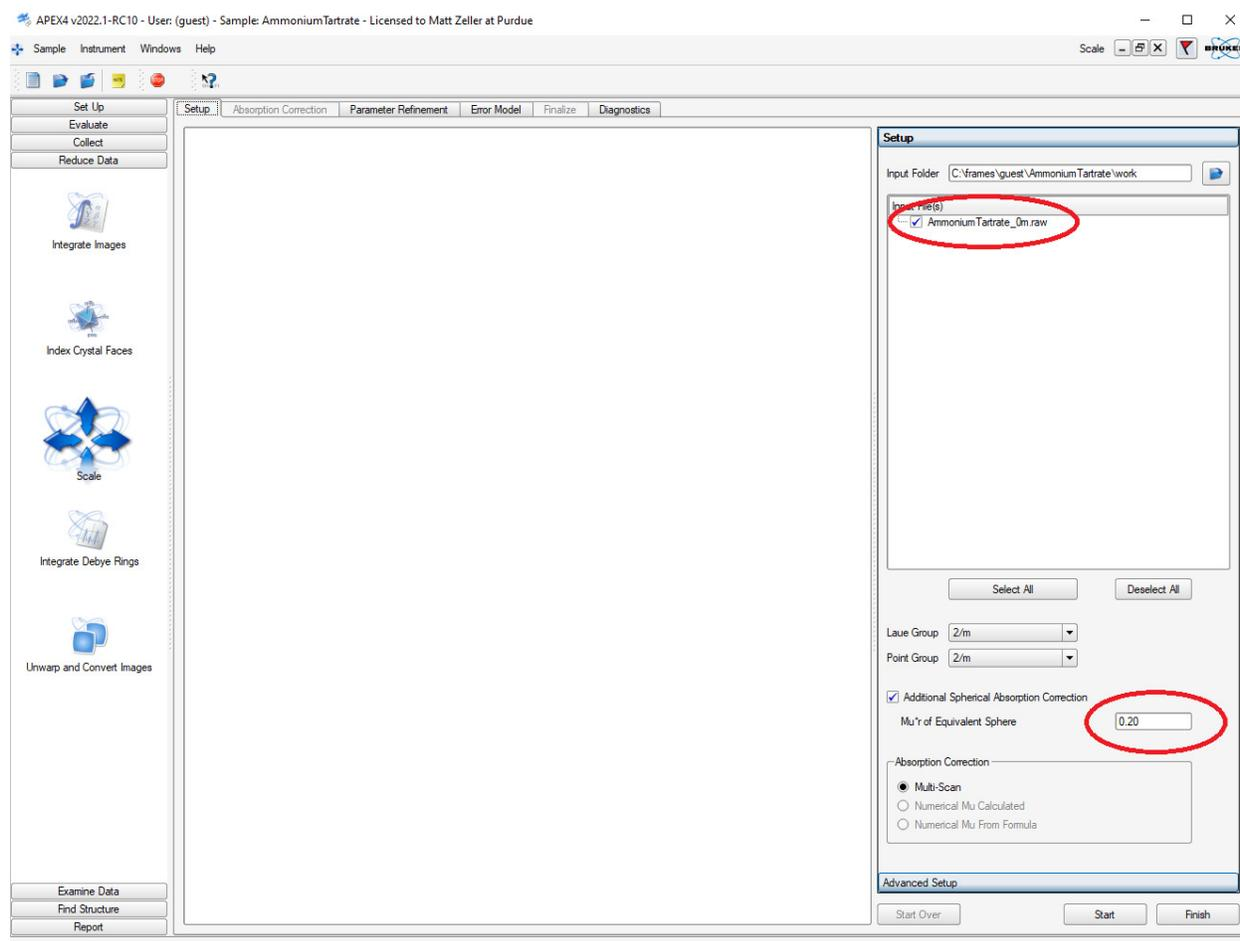

Figure 24, Absorption Correction and Error Model (<Scale>) Starting Window
- The refinement window will open (Fig. 24). An average redundancy of around 3.0 is usually sufficient for weak to medium absorbing samples. For oddly shaped and heavily absorbing samples a higher redundancy is required.